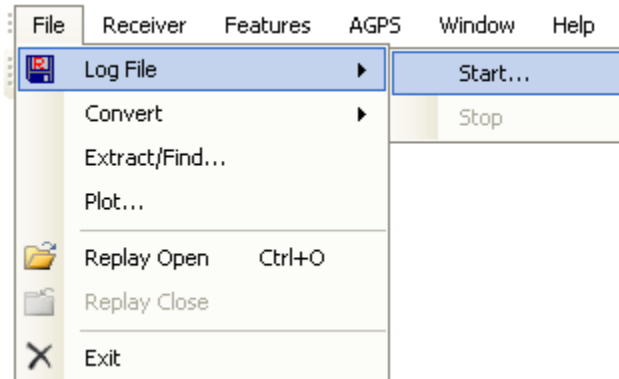

Fig 18: Main Menu Bar access to the Log File command.
1. While the receiver is outputting messages to SiRFLive, click on the *Log File* icon on the *Main Tool Bar* or go through the *Main Menu Bar* under “Log File” then “Start. . .” shown in Fig 18.